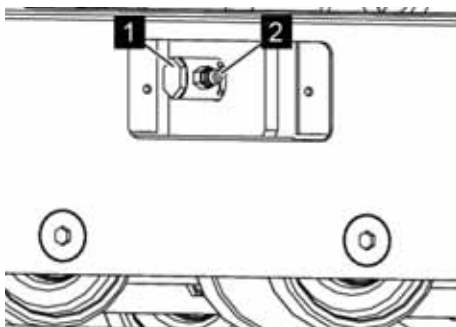

Fig. 129: Turning the slide coupling
5. ➔ Turn the slide coupling (Fig. 129/1) by 180° clockwise until the grease nipple (Fig. 129/2) points outward.
6. ➔ With a grease gun on the grease nipple (Fig. 129/2), insert sufficient multi-purpose lubricant (Item no. 3917/0095) that the chain has slack (Fig. 130/X) of 10–15 mm.
7. ➔ Make sure that no lubricant escapes on the grease nipple (Fig. 129/2).